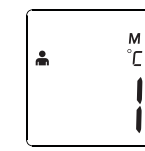

Figure 5
- 1. The Memory Mode can be accessed either in forehead mode or object mode. When the thermometer has been turned on and followed by Figure 2/4 or finished testing, press and hold the ON BUTTON for three seconds. The letter M will appear in the center right corner of the display. (See Figure 5)